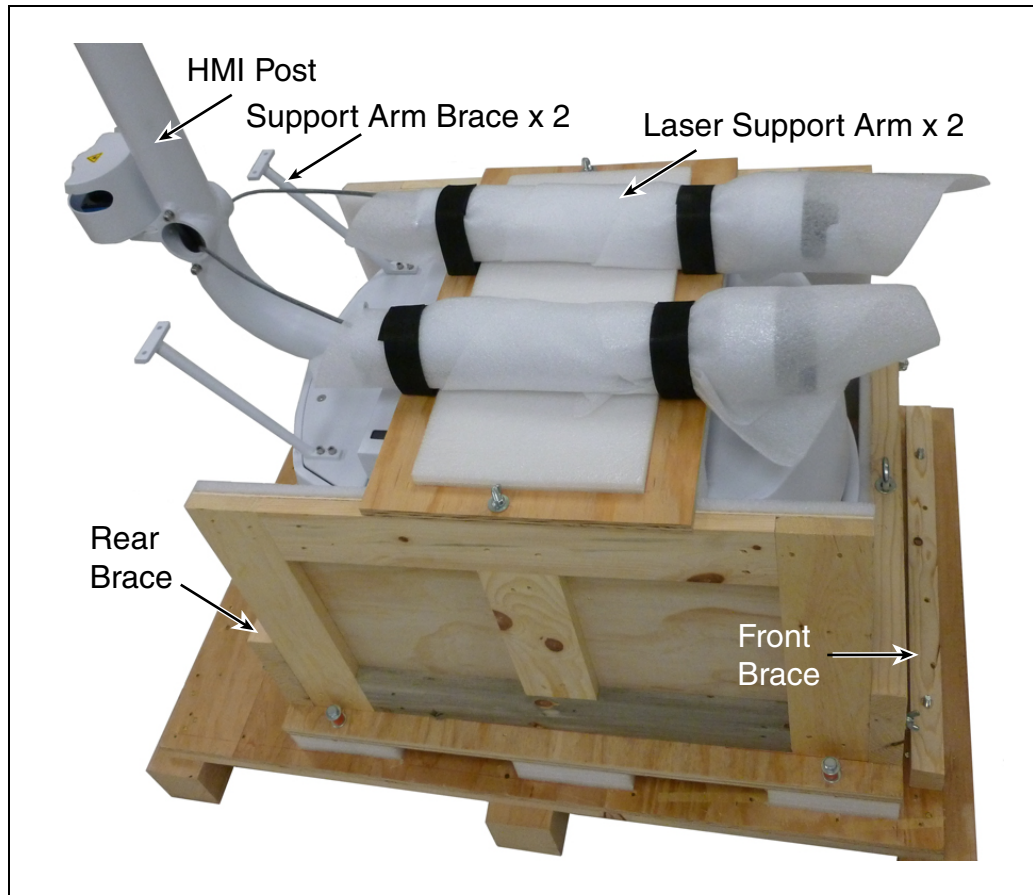

Figure 3-6. LD Cart Transporter on Crate Base
4. Remove the horizontal board that spans the top of the transporter by removing the two wing nuts. See Figure 3-6.